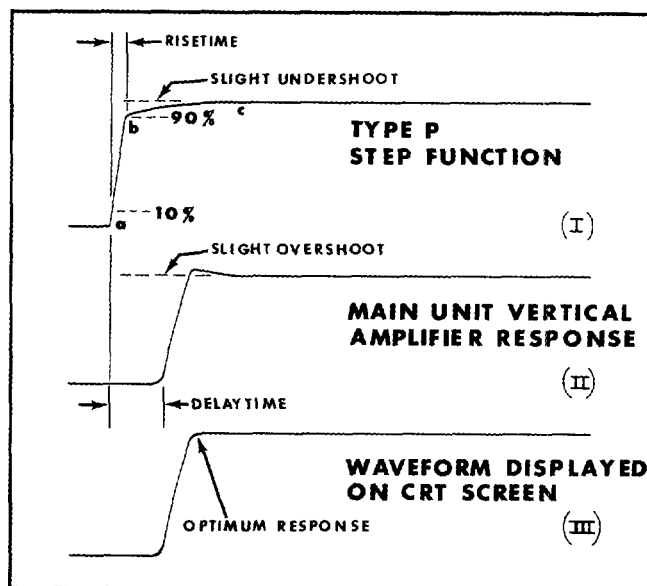

Fig. 3-1. Waveform differences in a Type P/540 Series oscilloscope combination.
Simulation of the output of a Type K Plug-In Unit involves two separate and distinct waveform slopes. In Fig. 3-1 (I), that portion of the waveform between points **a** and **b** corresponds to the risetime of a Type K. The gradual slope from **b** to **c** corresponds to a long time-constant undershoot of a Type K. For clarity, the amount of the undershoot is exaggerated.
Fig. 3-1 (II) shows the main-unit vertical-amplifier response of a properly adjusted oscilloscope. A slight overshoot of the main-unit oscilloscope amplifier compensates for the undershoot of the Type K (here simulated by the Type P Plug-In Test Unit). Once again, the overshoot of the main-unit vertical amplifier is exaggerated for clarity. The actual overshoot is approximately 2 per cent.
You do not actually observe the curves of Fig. 3-1 (I) and Fig. 3-1 (II) when you use the Type P. The waveform displayed on the oscilloscope screen is shown in Fig. 3-1 (III). You automatically overcompensate the main-unit vertical